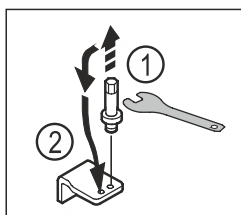

Fig. 19
- ▶ Unscrew the bolt of the lower swap bearing block with an Allen key AF5. Fig. 19 (1)
- ▶ Insert the bolt on the opposite side. Fig. 19 (2)